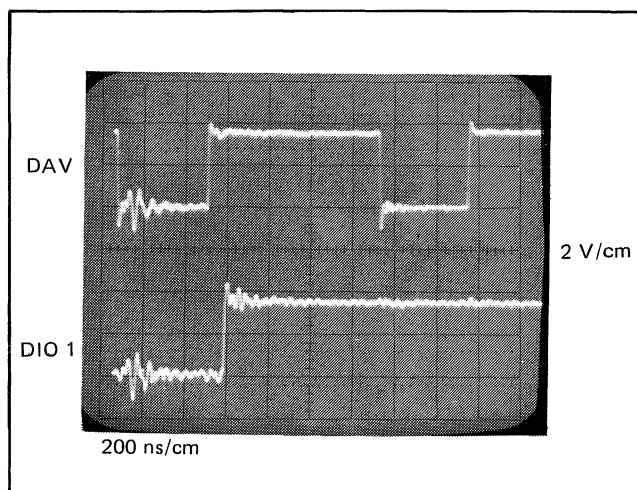

Figure 4-5. DAV Delay to Data.
d. The Oscilloscope display should be similar to that shown in Figure 4-5. The time between the positive going edge of the DIO 1 signal and the negative going edge of the DAV signal must be greater than 500 nanoseconds.